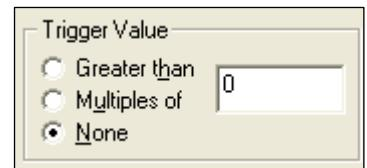

Figure 404
2. Set the trigger type to None (see Figure 404).